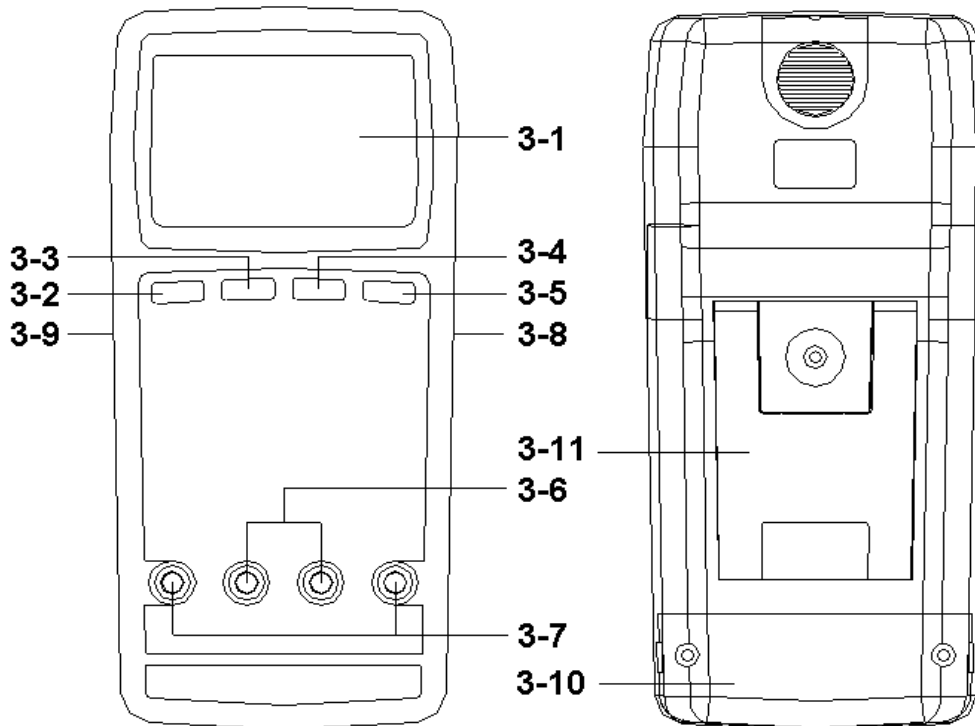

Fig. 1
- 1) Press the POWER button (3-2, Fig. 1) more than 1.5 sec to Turn ON the meter.
- 2) Press the POWER button (3-2, Fig. 1) more than 1.5 sec to Turn OFF the meter.
- 1) Press the POWER button (3-2, Fig.1) more than 1.5 sec to Turn ON the meter.
- 2) Push the FUNCTION button (3-3, Fig. 1) once then change function for measuring ACV.
- 2) Push the FUNCTION button (3-3, Fig. 1) once then change function for measuring ACA
- 6) Push the FUNCTION (3-3, Fig. 1) button once then change function for measuring ACV / ACA
- 9) At the same time. Push the FUNCTION button (3-3, Fig. 1) once then change function for measuring WATT / PF
During the measurement, press the " Hold Button " (3-4, Fig. 1) once will hold the measured value & the LCD will display a " HOLD " symbol.
- 1) The data record function records the maximum and minimum readings. Press the " REC Button " (3-5, Fig. 1) once to start the Data Record function and there will be a " REC. " symbol on the display.
a) Press the " REC Button " (3-5, Fig. 1) once, the " REC. MAX. " symbol along with the maximum value will appear on the display.
If intend to delete the maximum value, just press the " Hold Button " (3-4, Fig. 1) once, then the display will show the " REC. " symbol only & execute the memory function continuously.
b) Press the " REC Button " (3-5, Fig. 1) again, the " REC. MIN. " symbol along with the minimum value will appear on the display.
If intend to delete the minimum value, just press the " Hold Button " (3-4, Fig. 1) once, then the display will show the " REC. " symbol only & execute the memory function continuously.
2) If the instrument is working. Press the POWER button (3-2, Fig. 1) once, can turn ON the Backlight.
2) To de-activate this feature, Select the memory record function during measurement, by pressing the " Record button " (3-5, Fig. 1).
The instrument has RS232 PC serial interface via a 3.5 mm terminal (3-8, Fig. 1).